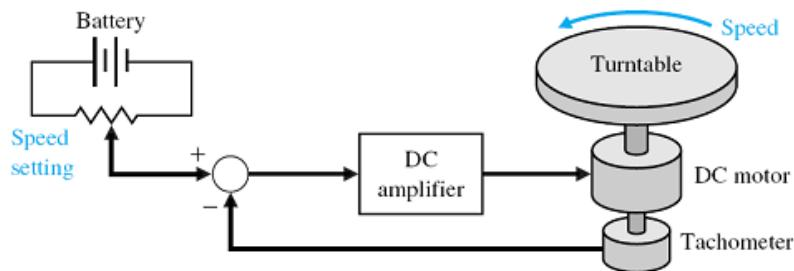

Figure A1 / Rajah A1
- CLO1 C3 (c) **Figure A1** shows the Turntable Speed Control system. Explain the operating principles of the system shown in Figure A1 with the aid of suitable sketches/diagram.